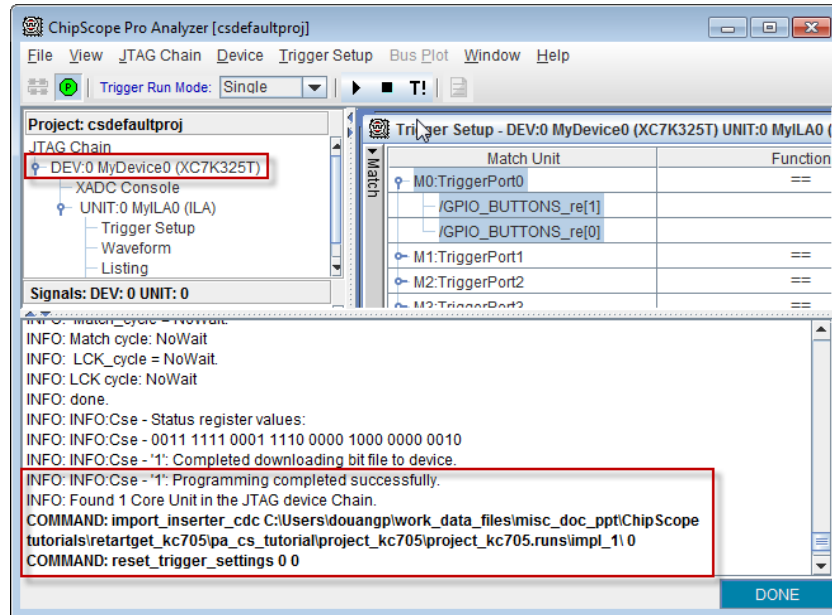

Figure 5: Device Configuration and ILA Core Information
- b. You can now verify the device configuration and ILA core in the ChipScope Pro Analyzer main window, as shown in Figure 5, page 14.
1. With the item **DEV:0 MyDevice0 (XC7K325T)** expanded, as shown in Figure 5, double-click **Trigger Setup**. The Trigger Setup display appears in the upper right pane.